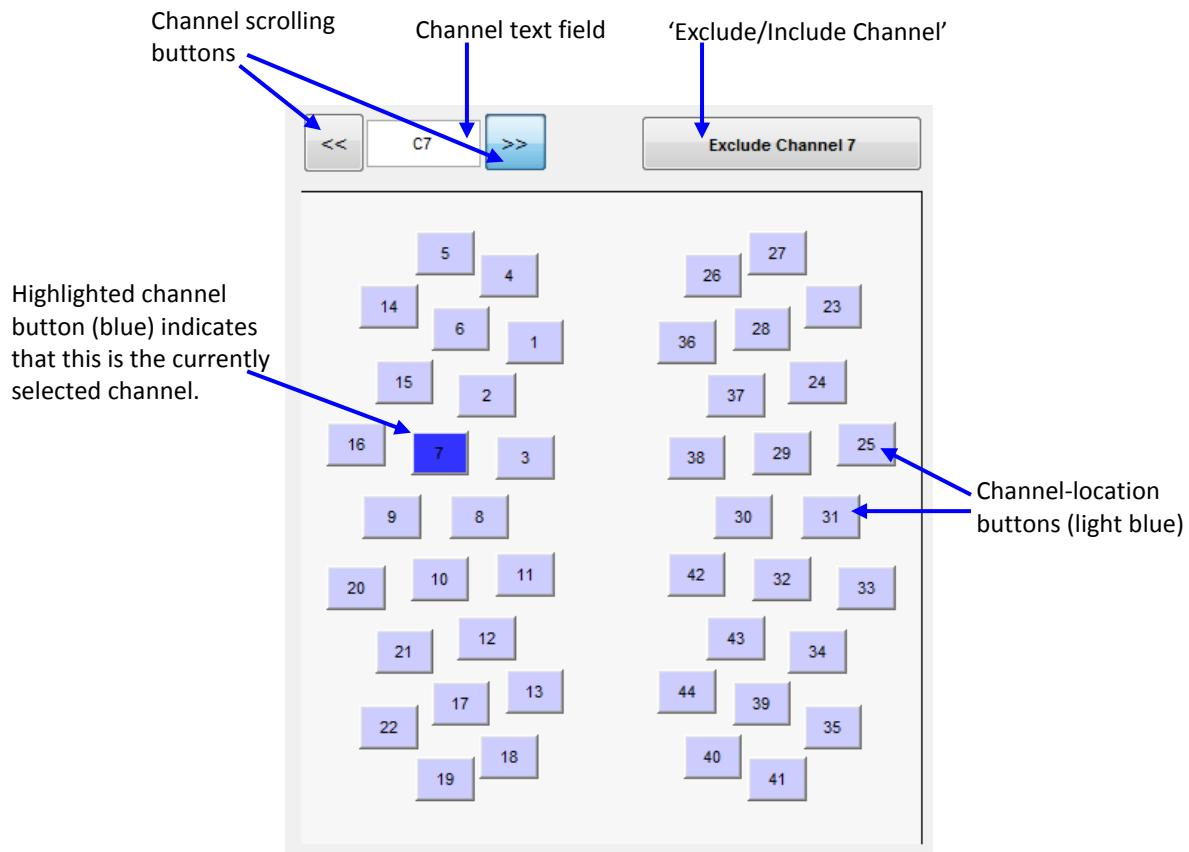

Figure 5-9. Selecting a channel from the set defined during probe setup.
1. Directly type the nirs channel numbers in the nirs channel text fields. For example, as shown in Figure 5-9, if you want to select the nirs channel 7 for viewing, type 'C7' in the nirs channel text field. Once entered, nirs channel 7 is immediately selected and its corresponding channel button is automatically highlighted in dark blue.